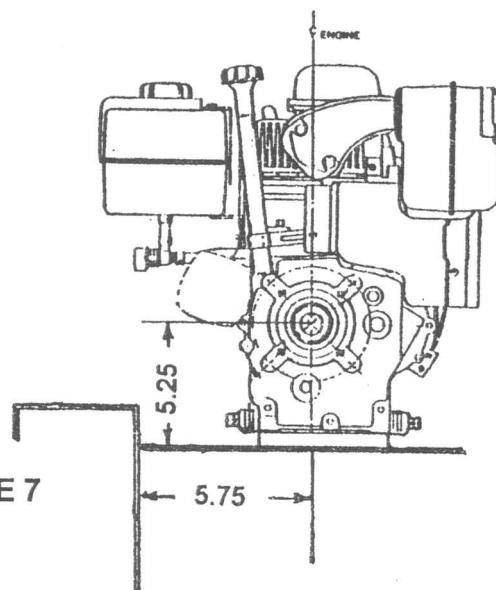
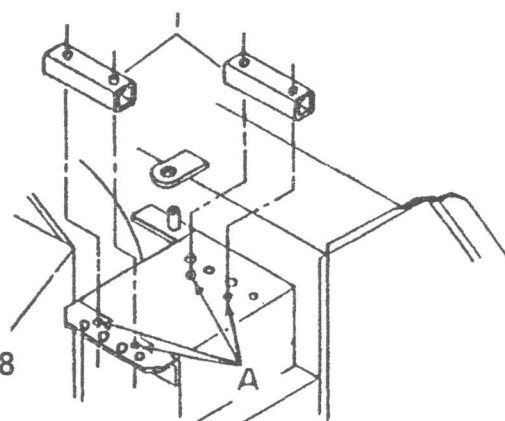

FIGURE 7
FIGURE 8
- c) Tecumseh Engine Installation: Measure the crank shaft height (fig. 7) to choose the appropriate shim: 1.00 or 3/4" to obtain 5.187 to 5.250" between the snowblower stand and the crank shaft, see fig. 7. Choose the holes identified as item « A » in Fig. 8. Secure the engine in place with 5/16 x 2 1/4" hex bolts and flange nuts.
- e) All Other Brands of Engines Installation: You may drill new holes or add shims as needed to obtain the correct distances between the snowblower housing and the crank shaft. It is very important to obtain the correct engine location as shown in fig. 7.